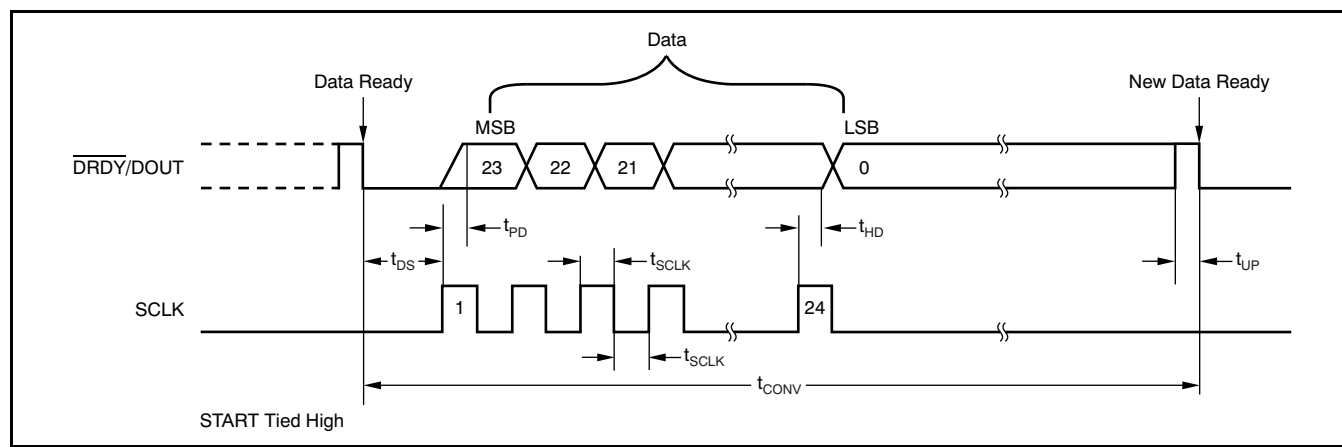

**Figure 28. Data Retrieval Timing**
With the START pin high, the ADS1225 and ADS1226 continuously convert the analog input signal. To retrieve data, wait until  $\overline{\text{DRDY}}/\text{DOUT}$  goes low, as illustrated in Figure 28 and Table 5. After this occurs, begin shifting out the data by applying SCLKs. Data is shifted out MSB first. It is not required to shift out all 24 bits of data, but the data must be retrieved before the new data is updated (see  $t_2$ ) or else it will be overwritten.
**Table 5. Data Retrieval Times for Figure 28**